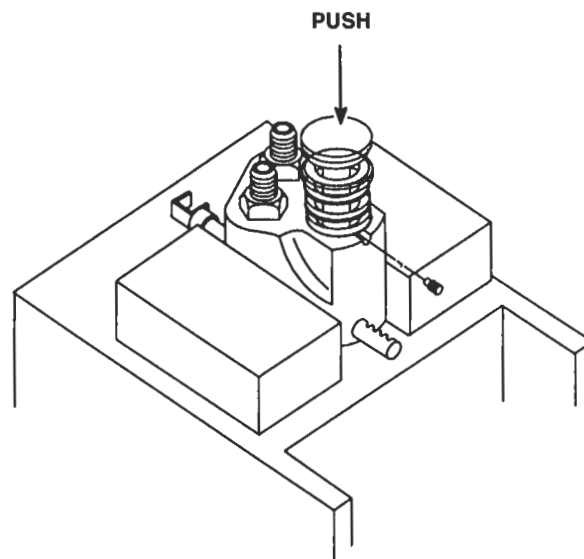

Figure 10. Removing Injector Follower Stop Pin
2. Compress the follower spring (Figure 10.) Then raise the spring above the stop pin with a screwdriver and withdraw the pin. Allow the spring to rise gradually.